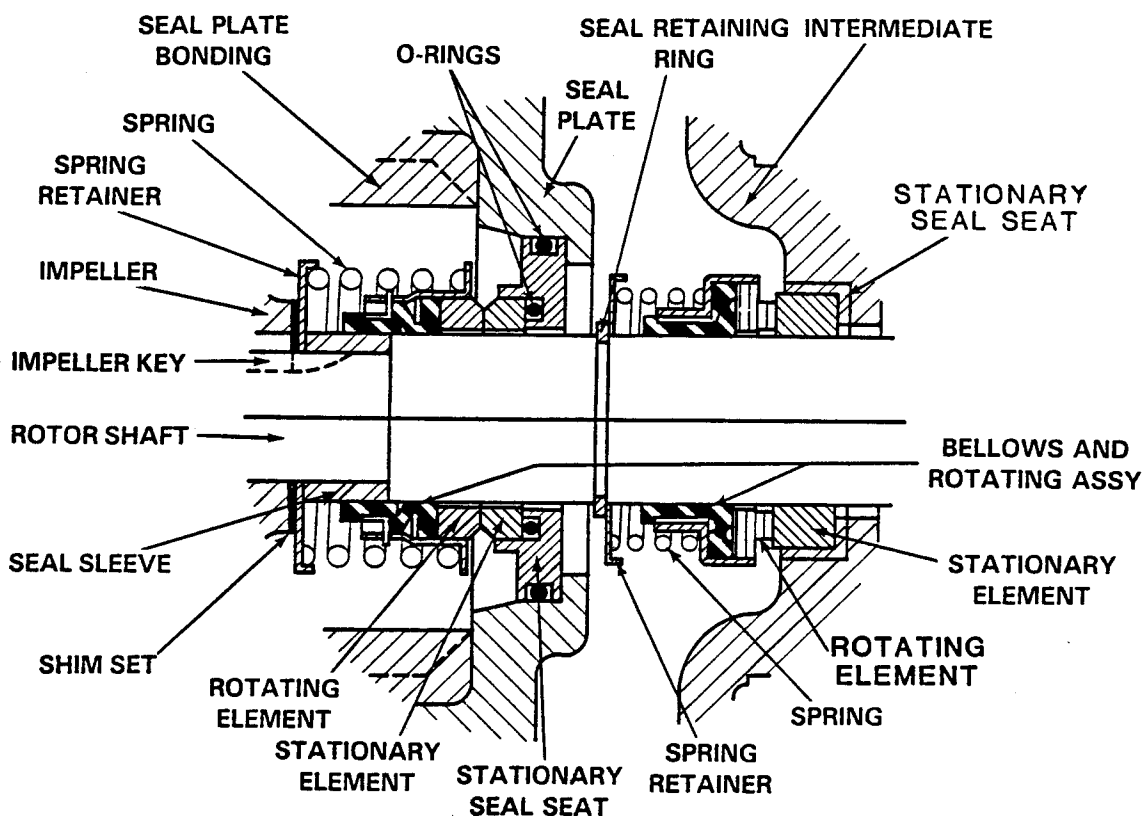

Figure 2. Seal Assemblies 46512-071 and S01832
Install the shaft seals as illustrated in Figure 2.
Slide the seal spring over the shaft and bellows retainer, and install the spring retainer. Compress the spring and install the seal retaining ring (71). See Figure 2 for proper order of seal assembly.
Unpack the stationary seat, and check that the O-rings are properly installed (see Figure 2). Apply a light coating of oil to the outer O-ring.